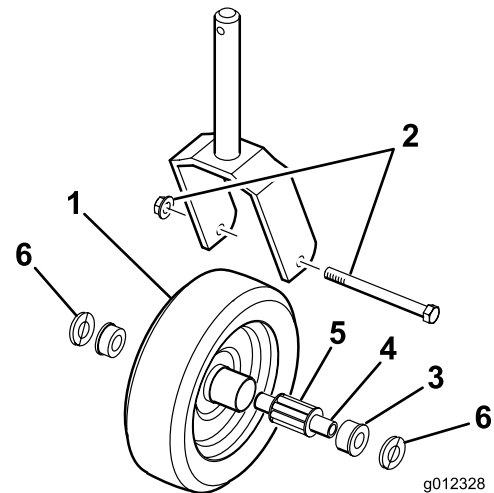

Figure 26
2. Pull the spanner bushing out of the wheel hub (Figure 26).
3. Remove the bushing from the wheel hub and allow the bearing to fall out (Figure 26). Remove the bushing from the opposite side of the wheel hub.
6. Carefully slide the spanner through the bushings and the wheel hub (Figure 26).